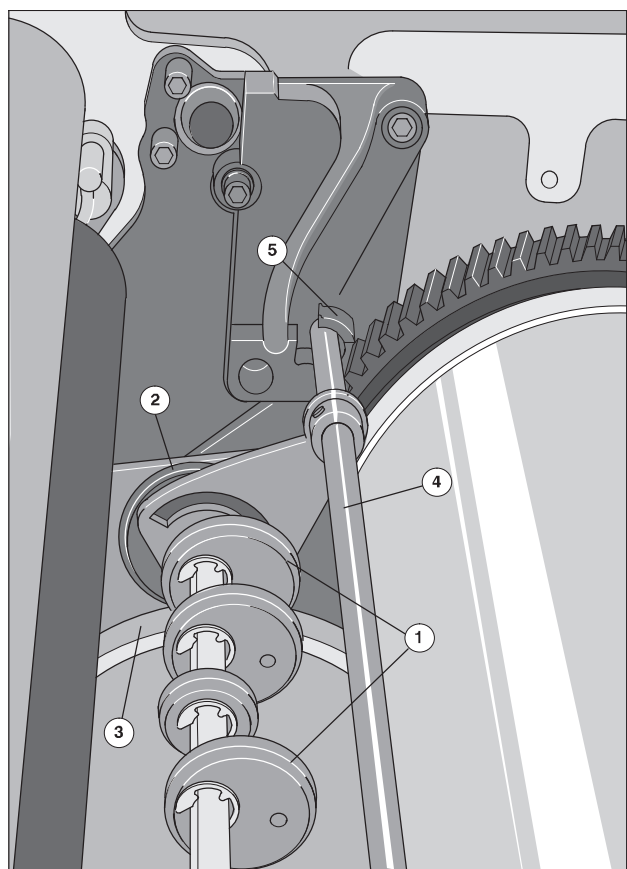

Fig. 47 Inserting pressing rollers, PU 2
When the pressing rollers (Fig. 47/1) face the inking unit when inserted, then the supporting collars (Fig. 47/2) on the bearers (Fig. 47/3) can roll off. This facilitates the insertion.
3. Lightly press the cross bar on O.S. towards the delivery into the bearing (Fig. 47/2) until you feel the cross bar engage.